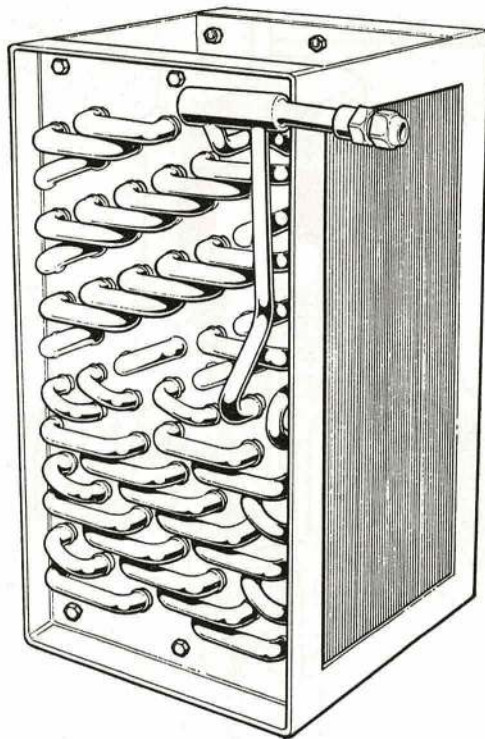

Fig. 10. EVAPORATOR
26. The former are used mainly in connection with large industrial units which can use the storage effect of brine to advantage. Fin type coolers are used mainly for smaller commercial and domestic refrigeration; these are the type normally found on ground equipment. An evaporator of this type (Fig. 10) is made up of finned tubing mounted in a thermally insulated container. An air delivery fan causes air to flow over the finned surfaces of the tubes where heat is abstracted direct from the air.